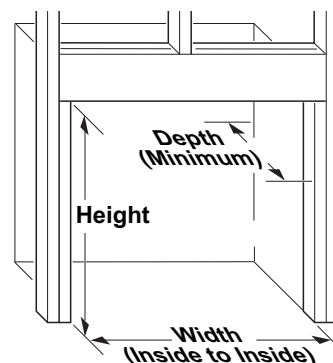

Figure 13 - Rough Opening for Installing in Wall
- Frame in rough opening. Use dimensions shown in **Figure 13** for the rough opening. If installing in a corner, use dimensions shown in **Figure 14, Page 14**, for the rough opening.